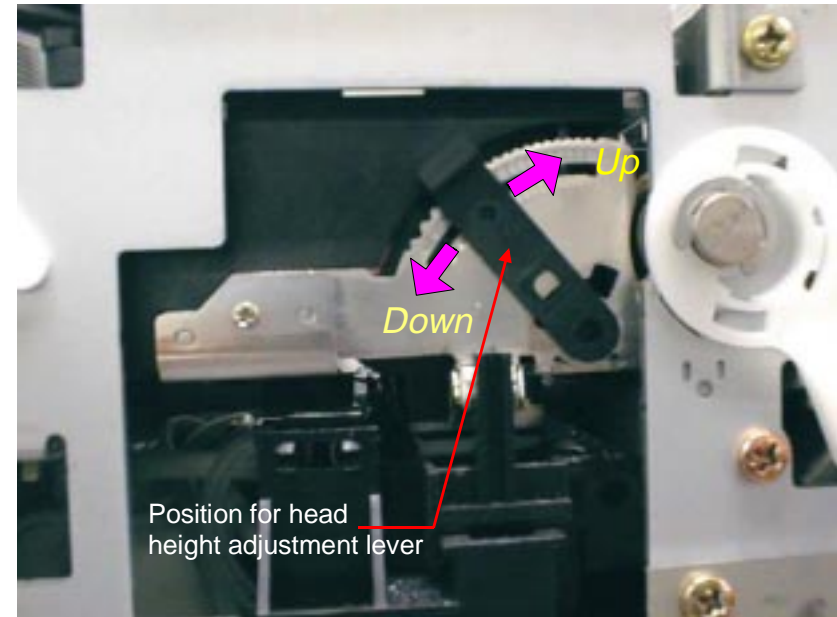

Figure 5-30. Position for Head Height Adjustment Lever
Step9. The position of the lever for the head height adjustment can be checked from the notched part of the mechanism located on the right side of the front printer. (Refer to figure5-30)